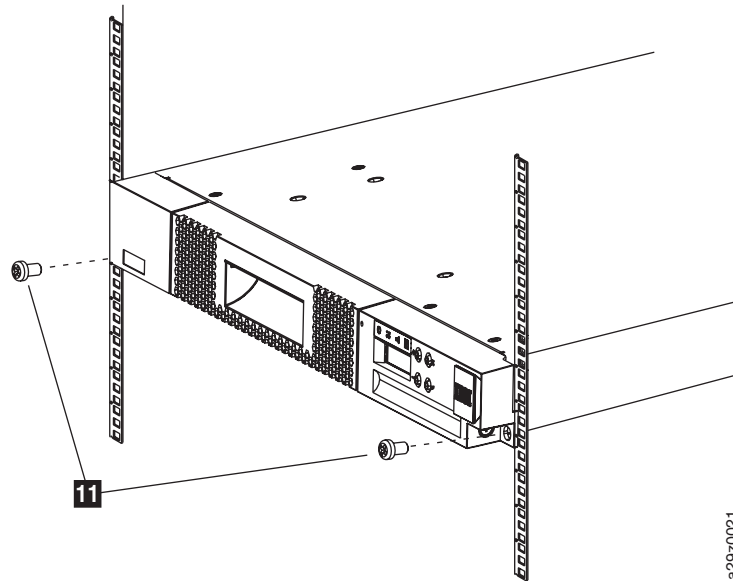

Figure 3-11. Securing the front of the library in the rack
- Slide the library chassis into the rack. Secure the front of the library to the rack using the large black screws **11** in the bottom holes on each front bracket (Figure 3-11).